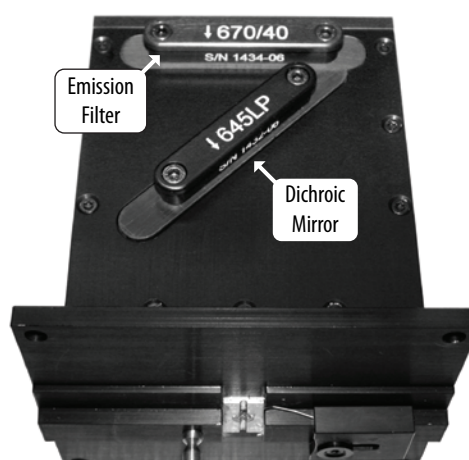

Figure 2. The optics slide removed from the instrument. Arrows indicate the dichroic mirror and emission filter.
3. Remove the dichroic mirror and emission filter from the optics slide (Figure 2), and place them into their storage boxes.